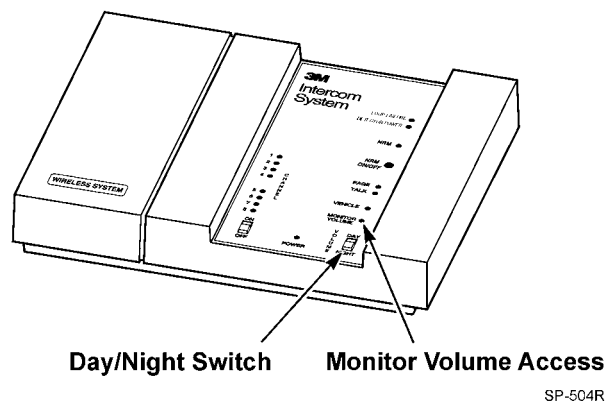

Figure 18.
Outdoors, sound travels best at night when air temperatures are cooler and background noise is reduced. To allow you to reduce the volume of the menu sign speaker to a lower, pre-set nighttime level, the base station has a VOLUME DAY/NIGHT switch. See Figure 18.
1. With the base station turned ON, insert a small straight-blade screwdriver into the MONITOR VOLUME access hole. See Figure 18.